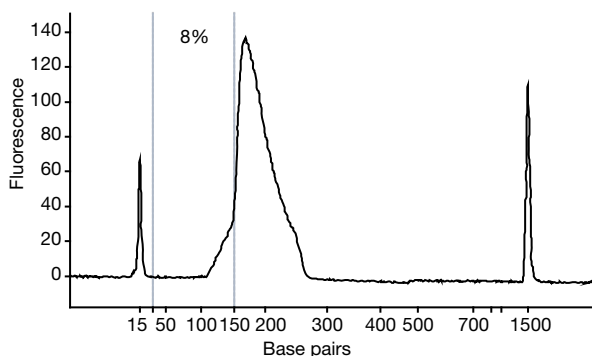
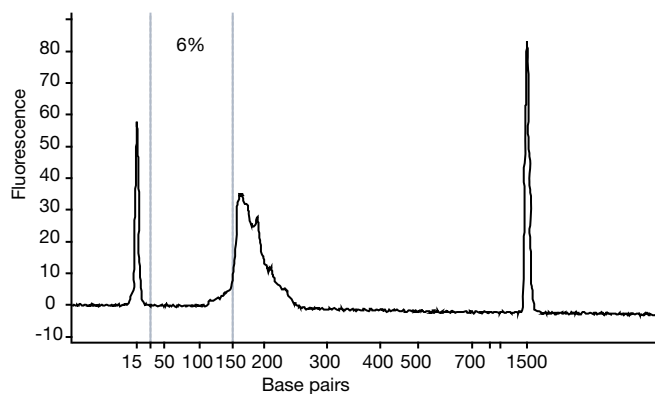
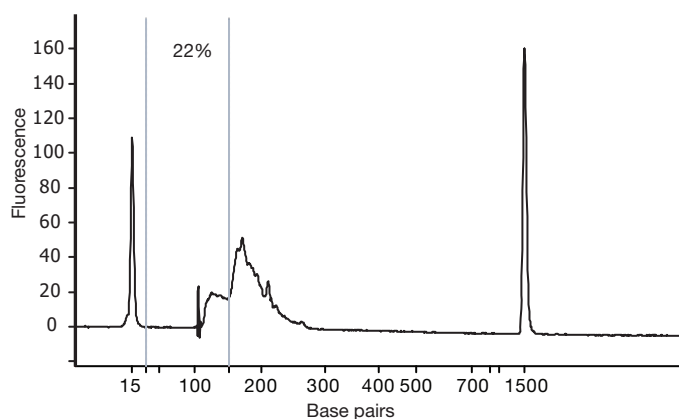

Figure 5 Size distribution of amplified library prepared from HeLa poly(A) RNA
Figure 6 Size distribution of amplified library prepared from rRNA-depleted HeLa total RNA
Figure 7 Sub-optimal size distribution of amplified library
Typical size distributions (Agilent 2100 Bioanalyzer profiles) of amplified libraries prepared from HeLa poly(A) RNA (Figure 5) and rRNA-depleted HeLa RNA (Figure 6) using the SOLiD™ Whole Transcriptome Analysis Kit are shown. Figure 7 is an example of a sub-optimal size distribution with >20% DNA 25–150 bp in length, prepared from rRNA-depleted FirstChoice® Human Brain Reference RNA (PN AM6050).